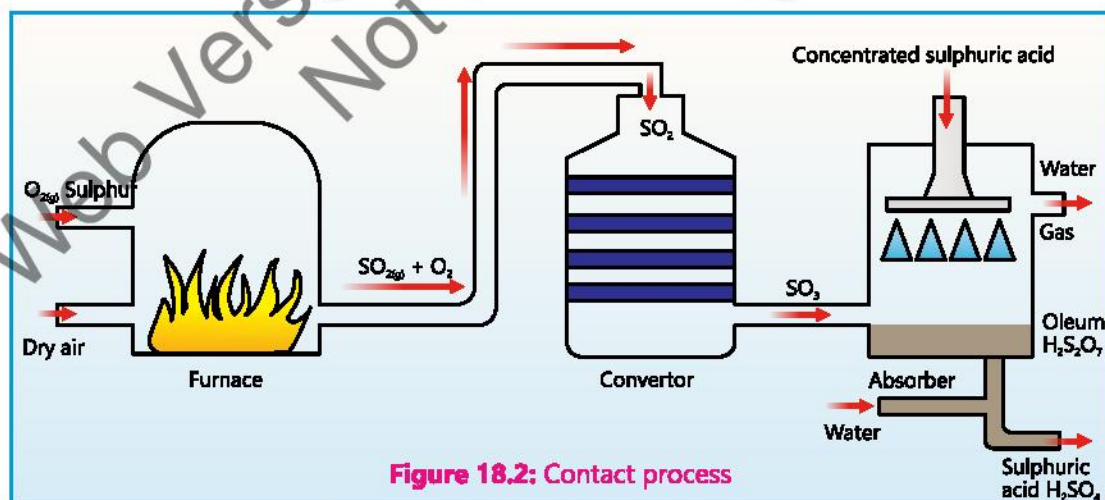

Figure 18.2: Contact process
(2) Oxidation of Sulphur dioxide
The clean and dry gases (SO_2 and O_2) are then passed over vanadium (V) oxide catalyst at 450°C and 2-3 atmospheric pressure through a contact chamber. Although the reaction is reversible yet under these conditions 98% SO_2 gas is converted to SO_3 (Figure 18.2).